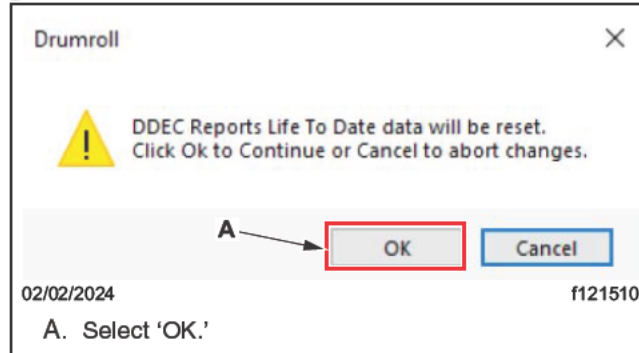

Fig. 35, DDEC Reports Pop-Up
- 17.9 DDEC reports are not applicable for battery electric vehicles. In the pop-up window that appears, select 'OK.' See Fig. 35.